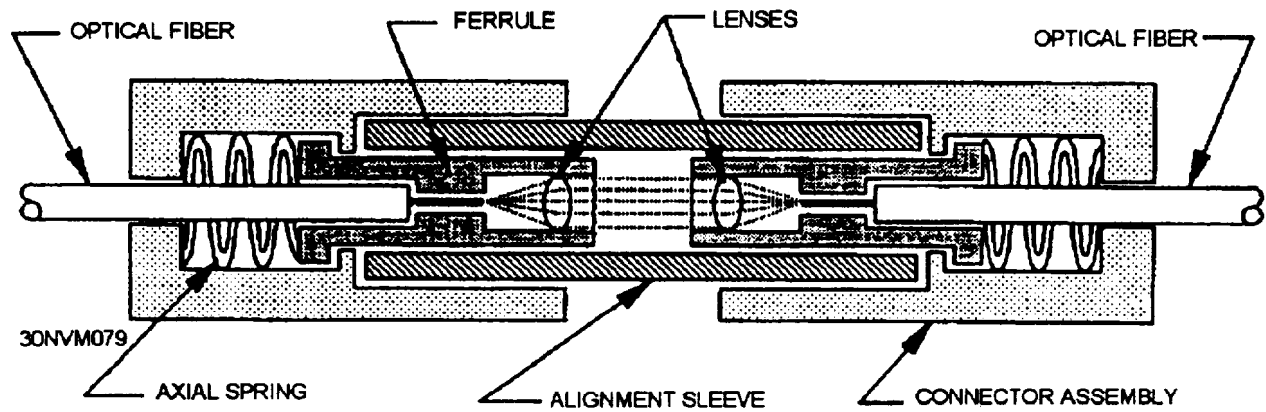

Figure 6-11.—Expanded-beam connector operation.
**Expanded-beam connector** shown in figure 6-11 uses two lenses to expand and then refocus the light from the transmitting fiber into the receiving fiber. Expanded-beam connectors are normally plug-adapter-plug type connections. Fiber separation and lateral misalignment are less critical in expanded-beam coupling than in butt-jointing. The same amount of fiber separation and lateral misalignment in expanded-beam coupling produces a lower coupling loss than in